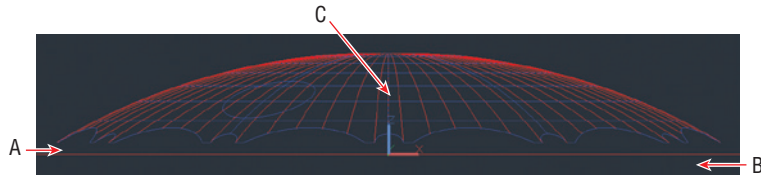

FIGURE 17.13 Selecting lines on the ground in the Front view for deletion
- Click the Front arrow below the ViewCube. Type **E** (for Erase), and click points A, B, and C in Figure 17.13 to select all the lines on the ground and one in the center. Press Enter to erase the selection.